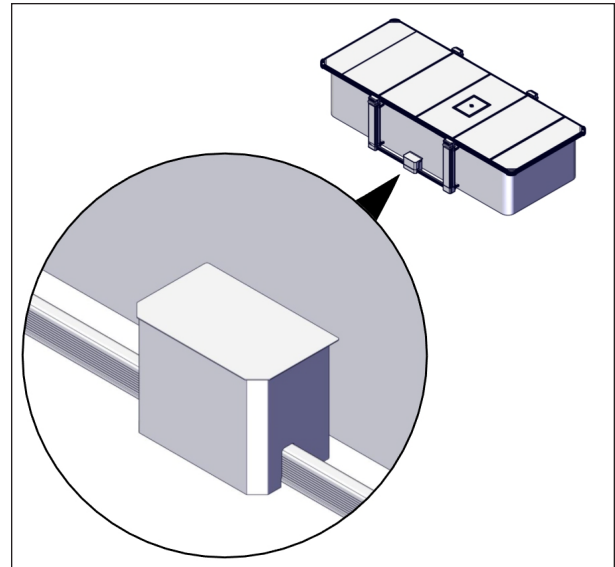

FIGURE 89: CONTROL BOX HOUSING INSTALLATION
- Slide the control box housing onto the U-frame, see Figure 89.